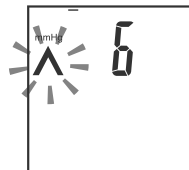

Fig.13
3. Automatic inflation starts (fig.13).